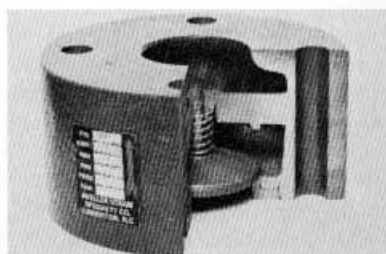

Figure 4
4. Standard wafer type - similar to compact wafer except body is the same outside diameter as the flanges and bolts pass through the body. See Figure 4.